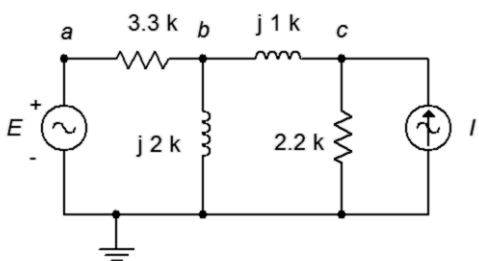

Figure 5.12
23. Use Superposition to determine the current of source E in the circuit of Figure 5.12. $E = 40\angle 180^\circ$ and $I = 20E - 3\angle 0^\circ$.
24. Use Superposition to determine v_{ac} in the circuit of Figure 5.12. $E = 28\angle 0^\circ$ and $I = 8E - 3\angle -180^\circ$.